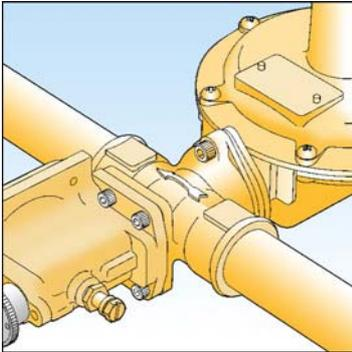

Fig. 1
- 6) The direction of gas flow must be the same as the arrows on the regulator body. See Fig. 1.